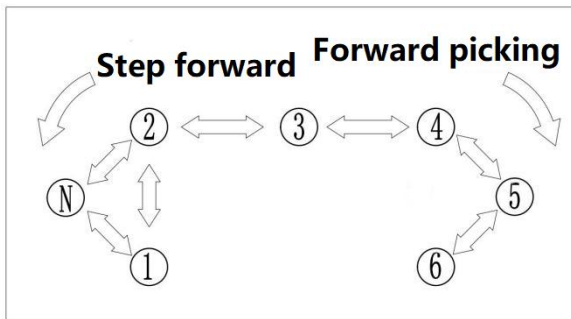
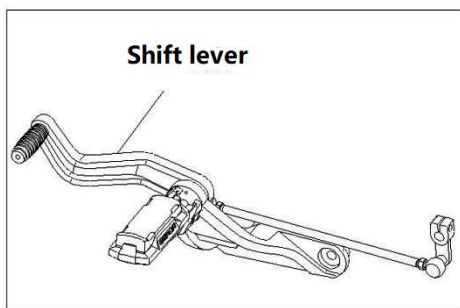

Fig14 Shift position
Fig15 Shift lever
5.4.1 Shift operation (Fig14、Fig15)